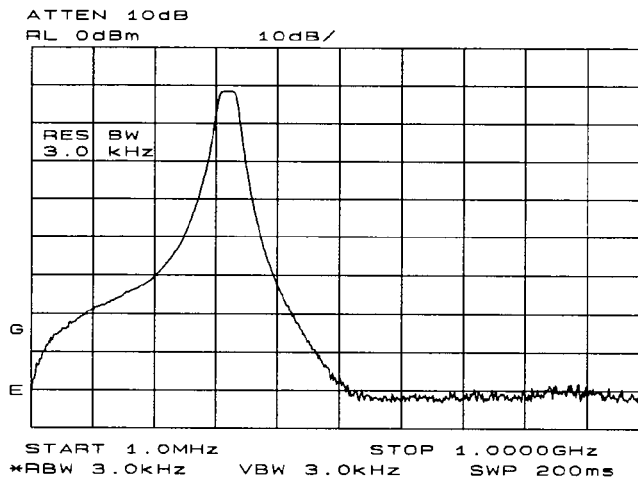

Figure 3-19. Decrease the resolution bandwidth to improve sensitivity.
- Decrease the resolution bandwidth to increase sensitivity, and narrow the video bandwidth to smooth the noise. In Figure 3-19, the resolution bandwidth has been decreased to 3 kHz.